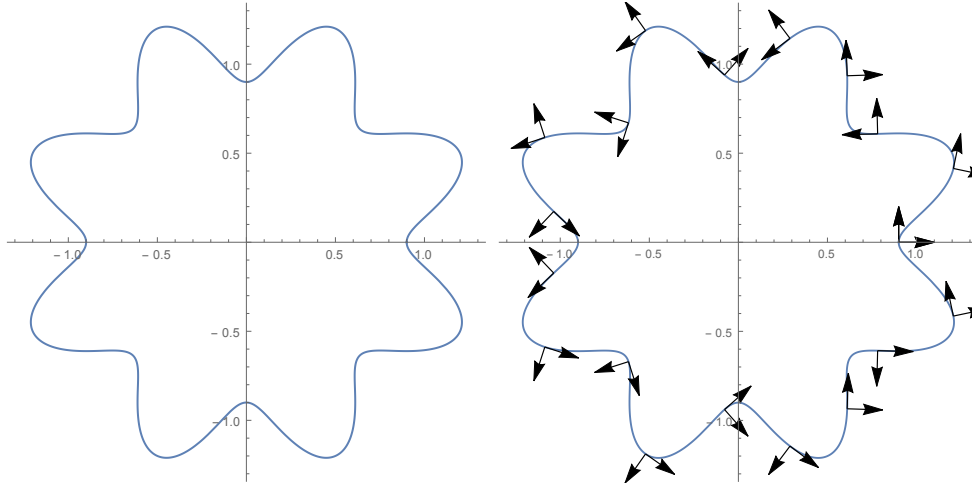

Figure 2: Left: Desired end effector path, Right: Desired end effector frame poses.
corresponding to the path shown in the left plot of Figure 2.
Our goal is to have the end effector follow this path, while keeping the x axis of the frame E perpendicular (pointing outwards) to this curve at all times. Find an expression for the end effector pose ${}^O T_E(\gamma)$ that realizes this goal a given $\gamma \in [0, 1]$. (Hint: You will first need to find an expression for the vector normal to the curve at any point. Remember that the tangent to a curve can be found by taking the derivative of its defining equation with respect to the parameter γ . If you align the y axis of E with this tangent, the x axis will be normal to the curve. Be careful about the direction though). The right plot in Figure 2 illustrates the desired frame poses.
6. If $a_2 = 0.5m$ and $a_3 = 0.2m$, what is the minimum value for a_1 such that the resulting robot can still follow the path in Figure 2? How did you find this minimum? Discuss your findings.